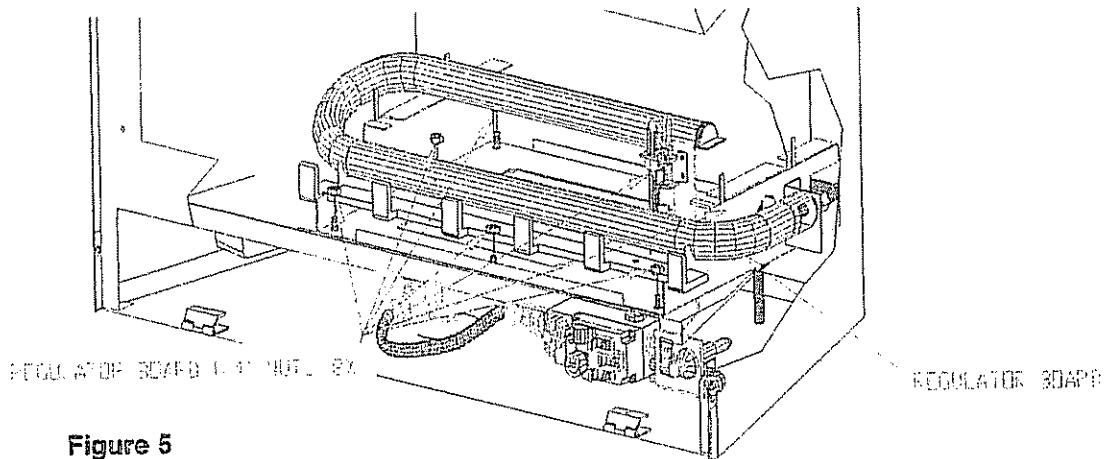

Figure 5
### E. REMOVE THE REGULATOR BOARD. See Figure 5.
REMOVING THE REGULATOR BOARD. See figure 5.
1. Replace the millivolt board. Refer to Figure 5.